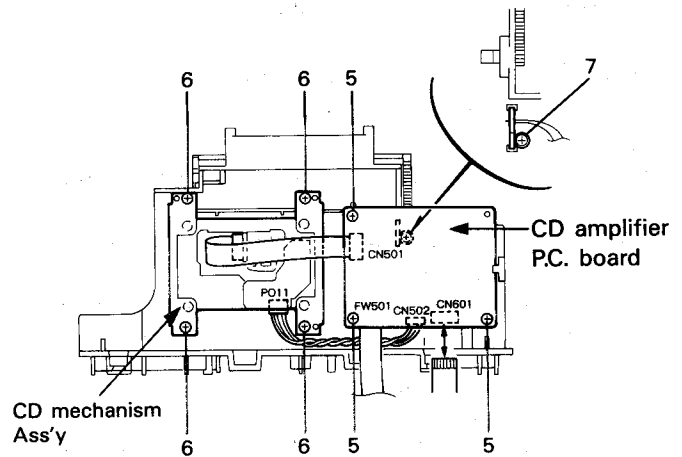

Fig. 7-5
■ CD Amplifier P.C. Board (refer to Fig. 7-5)
1. Remove the three screws (5) retaining the CD amplifier P.C. board from the CD player chassis.
4. Remove the screw (7) retaining the CD door close switch P.C. board.
■ CD Mechanism Assembly (refer to Fig. 7-5)
- Remove the four screws (6) retaining the CD mechanism assembly.